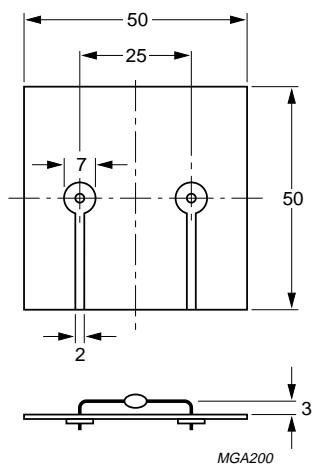

Fig.5 Leaded device mounted on printed-circuit board 50 × 50 mm.
Calculating this maximum power handling capability we have to take into account the maximum junction temperature of the particular device, the maximum temperature of the solder joints (110 °C for long time reliability) and the ambient temperature. Dependent on the ratio of the component parts of the thermal resistance it is possible that the junction temperature or the temperature of the solder joints (T_{tp}) will be the limiting factor. This can be shown in the following examples for a SOD57 device mounted on an FR4 printed-circuit board, as shown in Fig.5.
4. Mounted as in Fig.5.